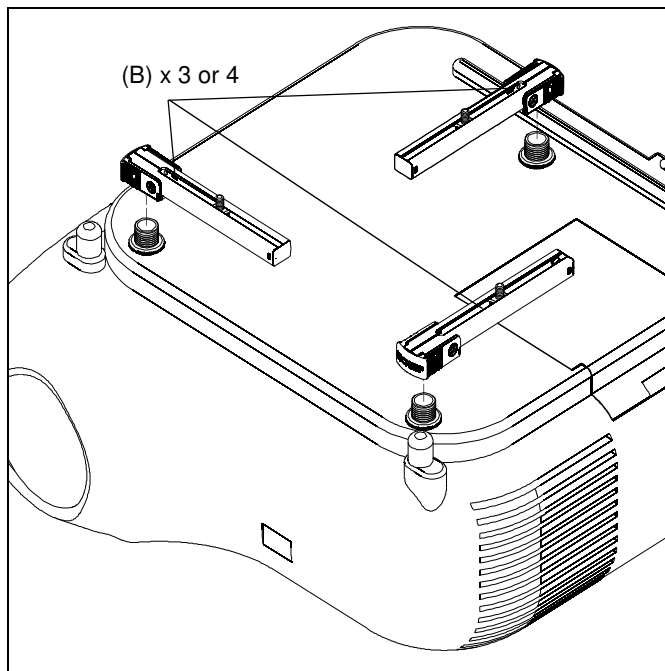

Figure 4
4. Place SLBU/SLMU legs (B) over screw adapters and height-adjustment nuts. (See Figure 4)